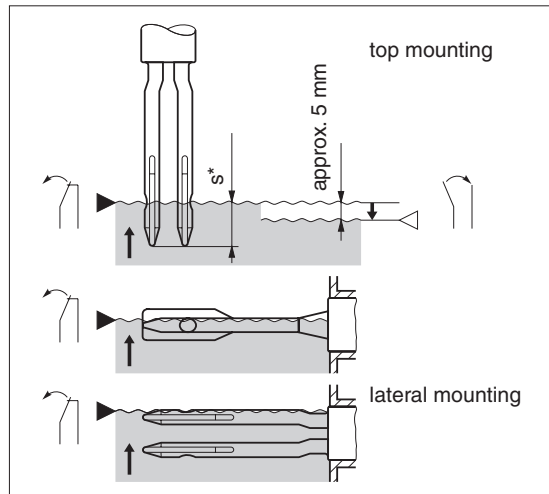

Fig. 3
The position of the switchpoint in relationship to the mounting position is shown in Fig. 3.
Switchpoint as a function of mounting position (shown in Fig. 3)
Fig. 3 a
The switchpoint of the Liquiphant S FDL 60 is determined by the mounting position: the fork is usually laterally on the tank (Fig. 3 and 4).
- For the Liquiphant S FDL 61 the required length *L* (see Figs. 6 and 7) is the distance from the upper edge of the tank process connection to the switchpoint at the surface of the liquid + *s* mm (Fig. 3).